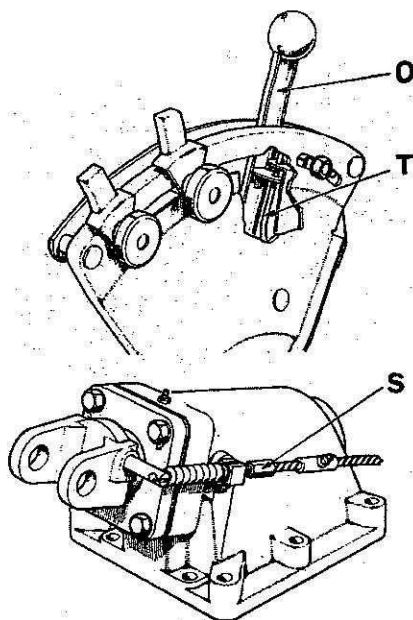

Fig. 183—Adjusting points for top link sensing unit flexible cable; refer to text for procedure.
244. ADJUST SENSING UNIT CABLE. On model 770 prior to serial No. 583396 (with single acting sensing unit), mount implement on 3-point hitch. With engine stopped, loosen lock nut and turn cable adjuster (S—Fig. 183) fully inward to be sure cable is slack. Move control lever (O) rearward until it contacts quadrant spring (T), start engine and allow linkage to raise to full height and reach hold position, then stop engine. With control lever still touching quadrant spring, screw adjuster (S) outward until linkage starts to creep downward, then turn adjuster back inward $1\frac{1}{2}$ turns. Hold adjuster in this position and tighten locknut. If insufficient control lever movement is obtained when shallow plowing, increase setting from creep down position to $2\frac{1}{2}$ turns.